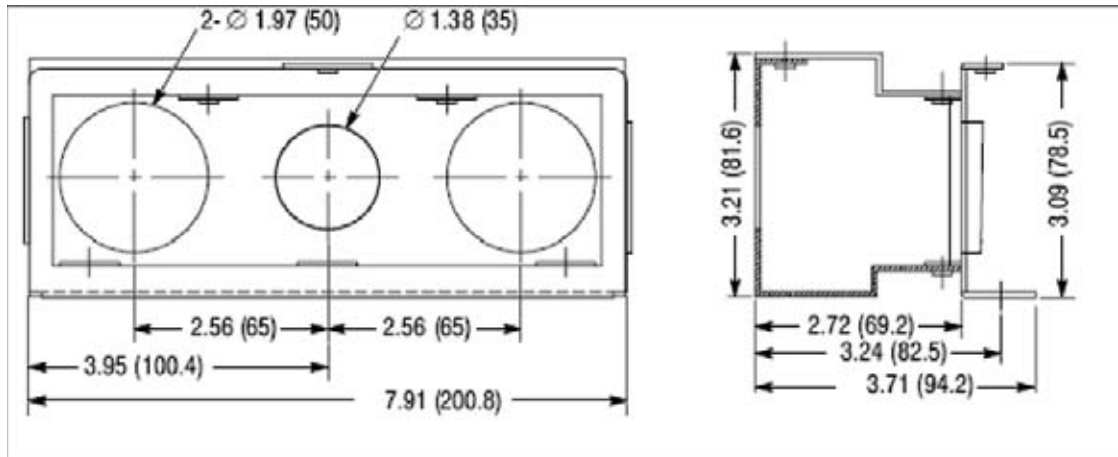

Figure D-1: Conduit Kit for VS1PF-NM1C 20-25 HP (Standard)
1. Drill two mounting holes in the locations shows using Figure D-1 as a template.